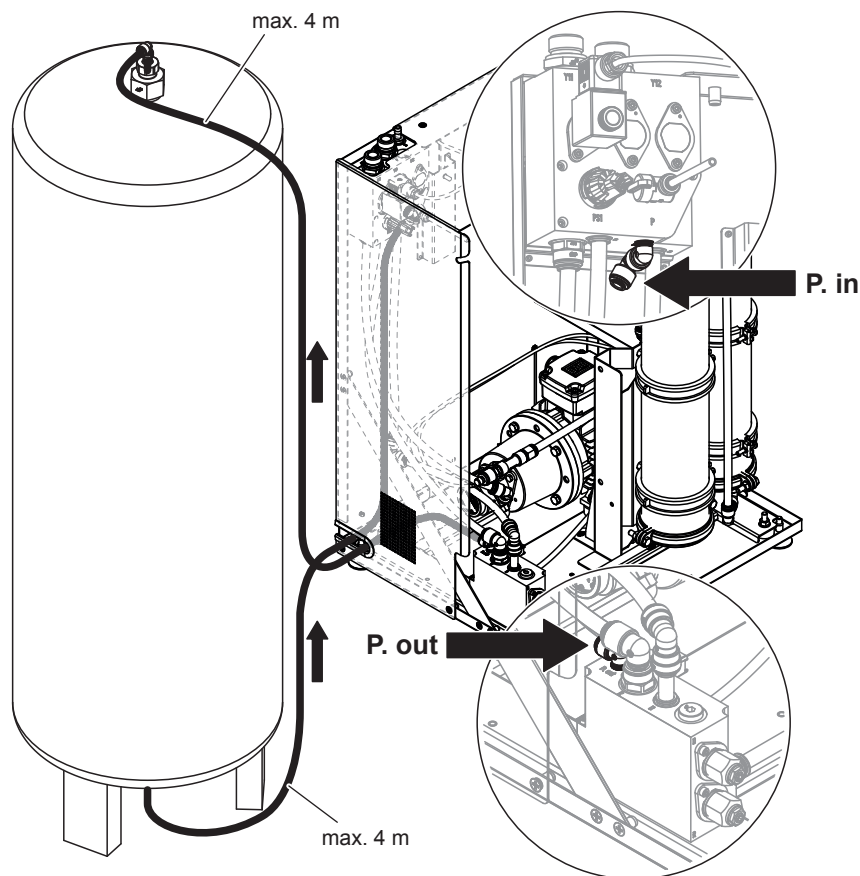
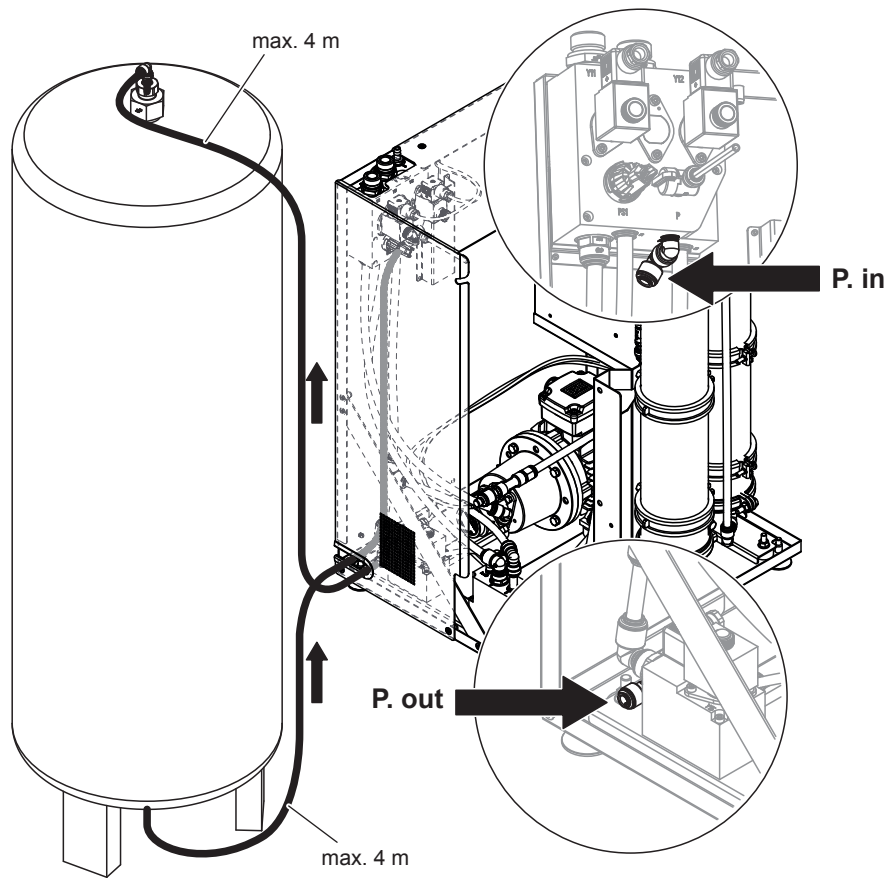
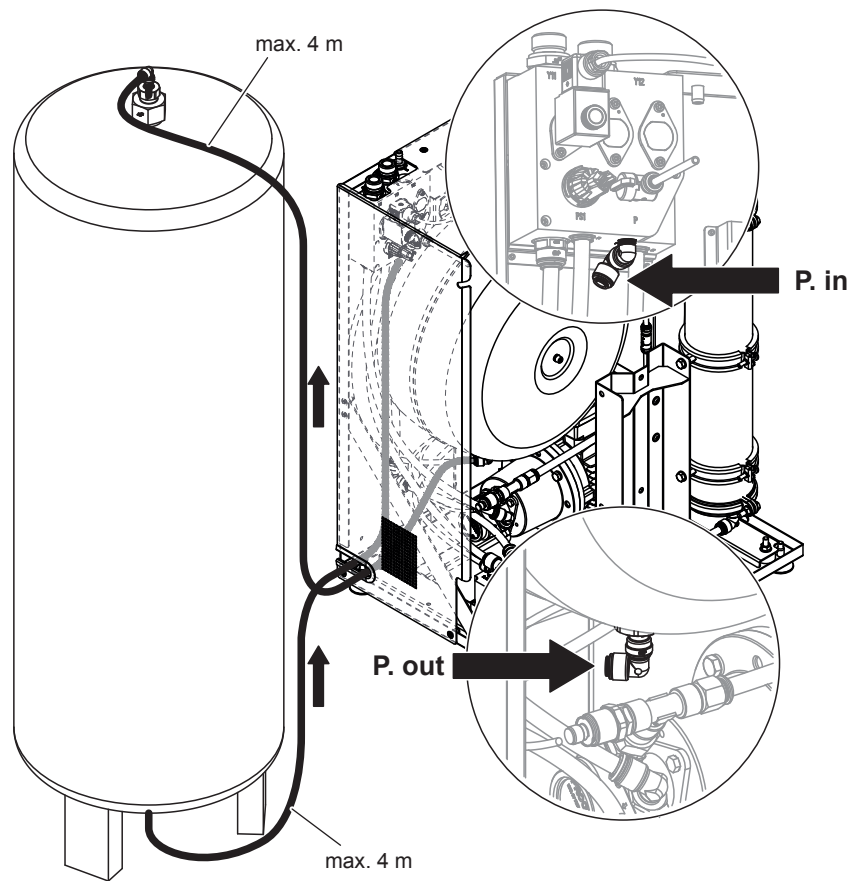
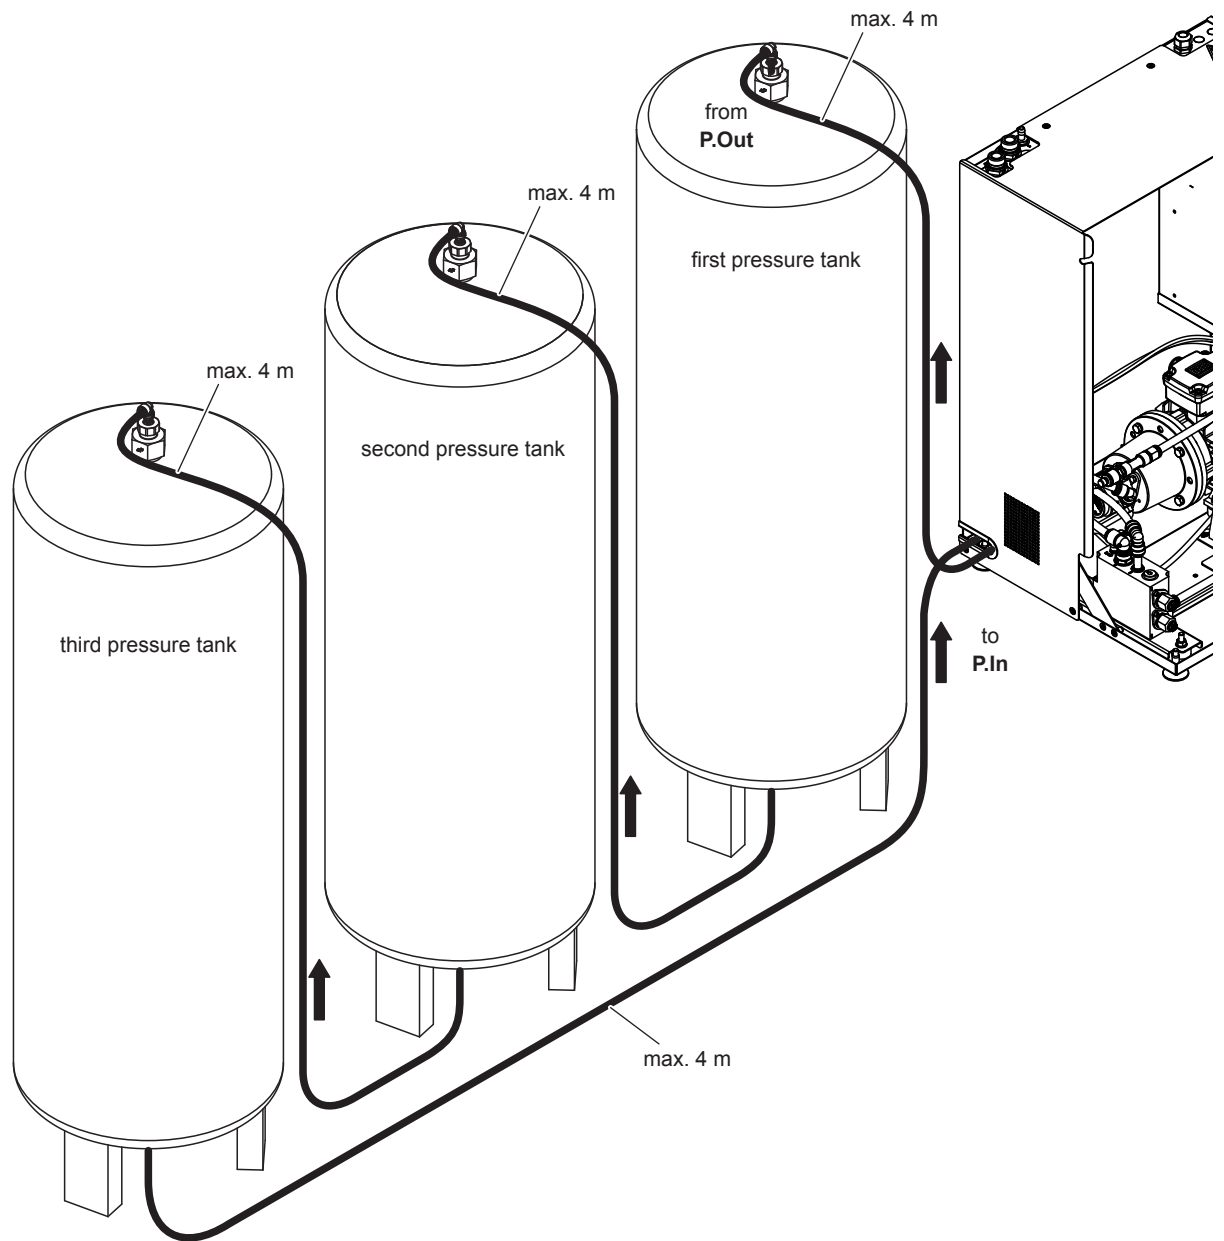

Fig. 12: Connecting the external pressure tank to the Condair RO-E 200/300 pure water system (figure shows RO-E 200)
Fig. 13: Connecting the external pressure tank to the Condair RO-E+ 200/300 pure water system (figure shows RO-E+ 200)
Fig. 14: Connecting the optional external pressure tank to the Condair RO-E(+) 40/100 pure water system with internal pressure tank (figure shows RO-E 100)
Fig. 15: Connecting several external pressure tanks to the Condair RO-E(+) pure water system
Important: The maximum hose lengths shown in Fig. 12 to Fig. 15 must not be exceeded. Make sure the connection hoses are not routed higher than the connection on top of the pressure tank(s).
4. Connect the supplied black JG hose $\varnothing 8$ mm to the angle connector of the "P. out" connection of the corresponding logic block (see Fig. 12 or Fig. 13) or of the internal pressure tank (see Fig. 14), and lead the hose to the **upper** connection on the (first) external pressure tank, cut the hose to length and connect it to the angle connector of the pressure tank.
Up to three external pressure tanks can be connected to a RO-E(+) pure water systems according to the schematic diagram shown in Fig. 15.